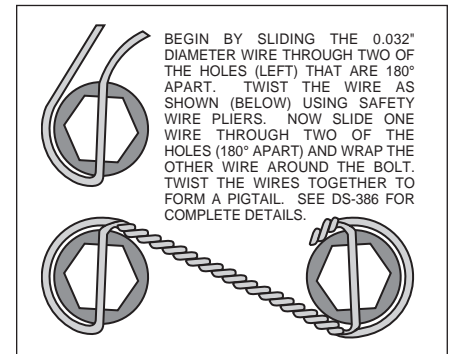

Figure 3. Safety Wire Diagram
•With the larger I.D. side of the rotor (3) facing away from the hat (4), bolt rotor (3) to hat (4) through the backside of the rotor using washers (5) and bolts (6). Torque bolts (6) in an alternating sequence to 120-144 **in-lb**. Safety wire bolts (6) using standard 0.032 inch diameter stainless steel safety wire as shown in Figure 3. Please refer to Wilwood's data sheet DS-386 (available at www.wilwood.com/pdf/ds386.pdf) for complete safety wire installation instructions. Slide the rotor/hat assembly onto the spindle. Check to be sure the hat seats squarely against the hub. Install a couple of lug nuts (finger tighten) to keep the rotor/hat assembly in place while continuing with the installation.
•**NOTE:** Please reference the caution statement at the beginning of the assembly instructions. Install two spacers (8) and one shim washer (9) over each pre-installed stud (10) on the radial mount bracket (1). Slide the caliper (7) in place over the studs and rotors and install the washer (11) and lock nut (12) to hold the caliper in place. The caliper bleed screws should be pointing up. Snug the lock nuts (12) and check that the rotor (3) is centered in the caliper (7). Add or subtract .024" shims (2) as necessary between the caliper mounting bracket (1) and the spindle to center the caliper (7).